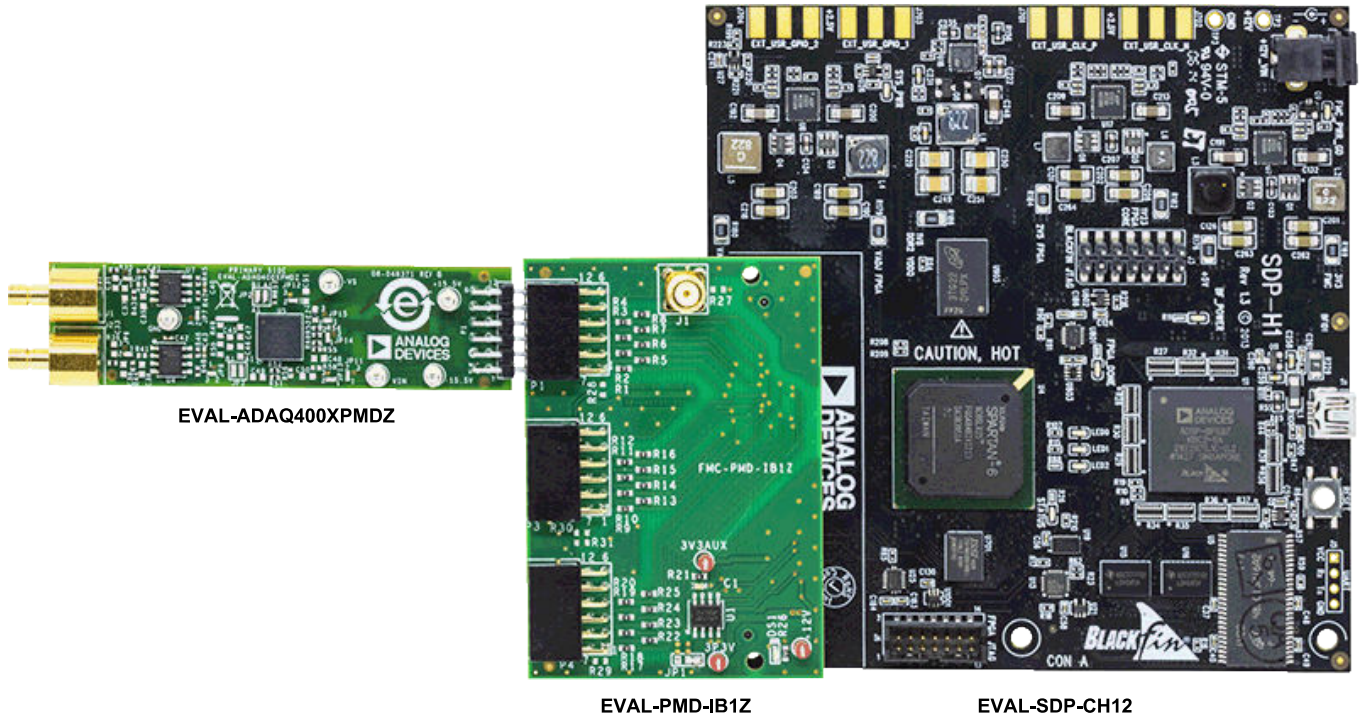

Figure 1.
The ADAQ4001 and ADAQ4003 μ Module® data acquisition system evaluation kit (EVAL-ADAQ4001FMCZ/EVAL-ADAQ4003FMCZ) contains the EVAL-ADAQ4001PMDZ or EVAL-ADAQ4003PMDZ peripheral module (Pmod) board and the EVAL-PMD-IB1Z Pmod to field programmable grid array (FPGA) mezzanine card (FMC) interposer board that interfaces with the system demonstration controller board (EVAL-SDP-CH1Z) via a 160-pin FMC connector, as shown in Figure 1.
stration platform (SDP-H1) to capture the data via a graphic user interface (GUI) (see Figure 1). The SDP-H1 requires power from a 12 V wall adapter. The SDP-H1 has a Xilinx® Spartan®-6 and an ADSP-BF527 processor with connectivity to the PC through a USB 2.0 high speed port.
1. Connect the EVAL-ADAQ4001PMDZ or the EVAL-ADAQ4003PMDZ to the EVAL-PMD-IB1Z interposer board at the P1 header (see Figure 1).